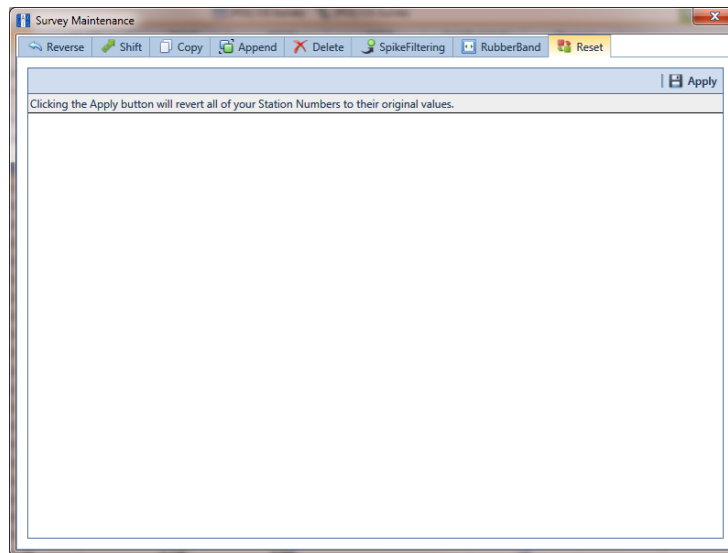

Figure 7-78. Reset
- Click  **Survey Maintenance** to open the *Survey Maintenance* dialog box. Then click  **Reset** (Figure 7-78).